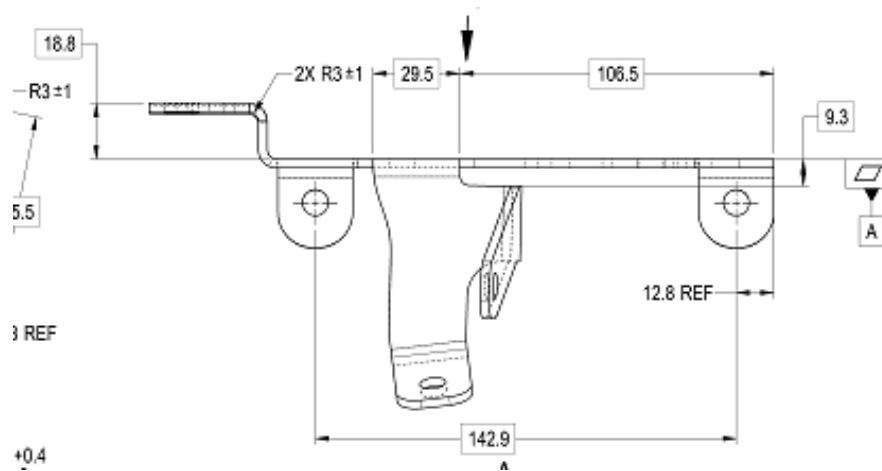

Fig. 5, New Engine Bracket Showing Dimensions
- Using the two fasteners removed in the previous step, install the new bracket (part number A66-24315-000). Tighten the M6 hex screw $5\pm.4$ lbf·ft ($7\pm.5$ N·m). Tighten the M8 hex nut $11\pm.7$ lbf·ft ($15\pm.1$ N·m). See **Fig. 5** for an illustration of the new bracket.